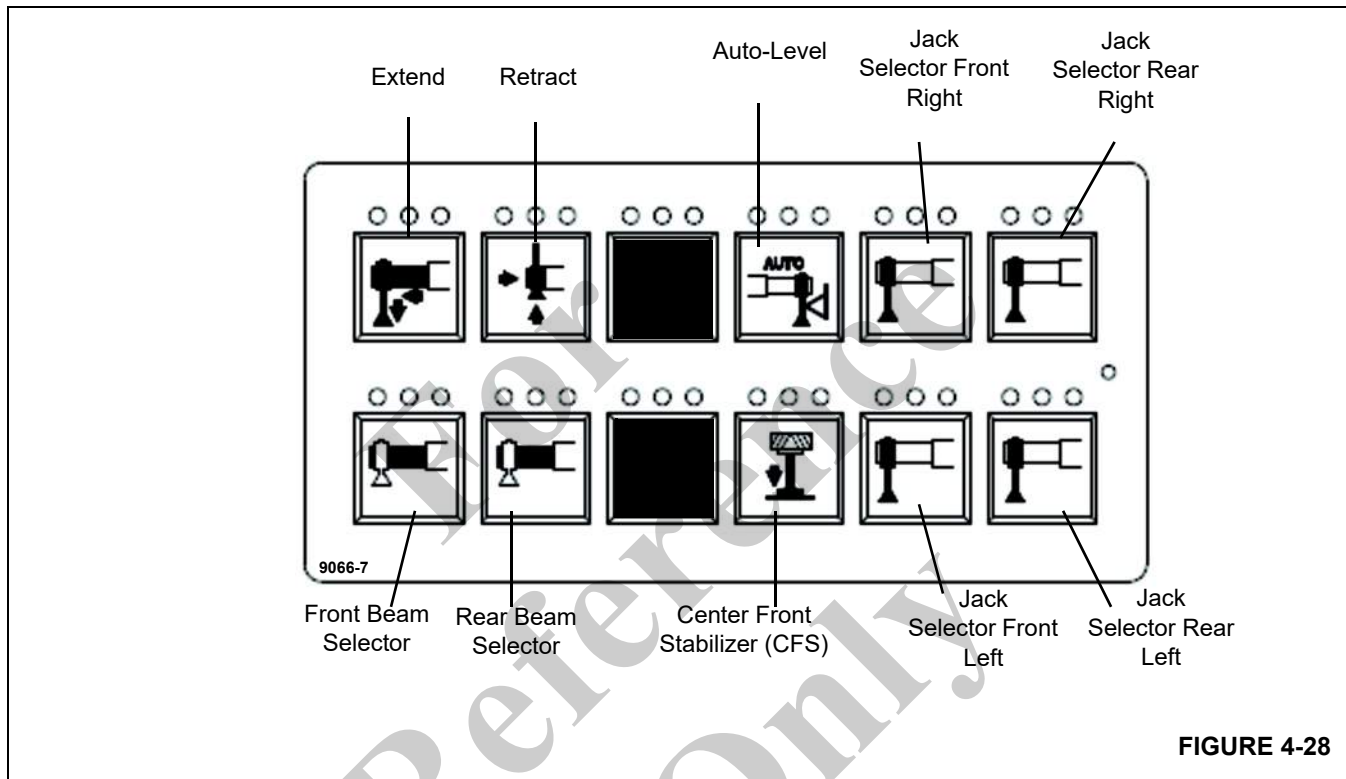

FIGURE 4-28
On the Outrigger Keypad(s), to activate or deactivate Cribbing Mode (Figure 4-28), push the Center Front Stabilizer (CFS) push button twice.
6. Retract the main front outrigger jacks off the ground, by pushing the **Retract** push button and the **Jack Selector** push buttons together to move the main front outrigger jacks off the ground (Figure 4-28).
ground/cribbing by pressing the Extend push button and both the Left and Right Front Jack Selector push buttons together (Figure 4-28).
11. Extend the CFS until movement ceases by pressing the Extend push button and the Center Front Stabilizer push buttons together (Figure 4-28).